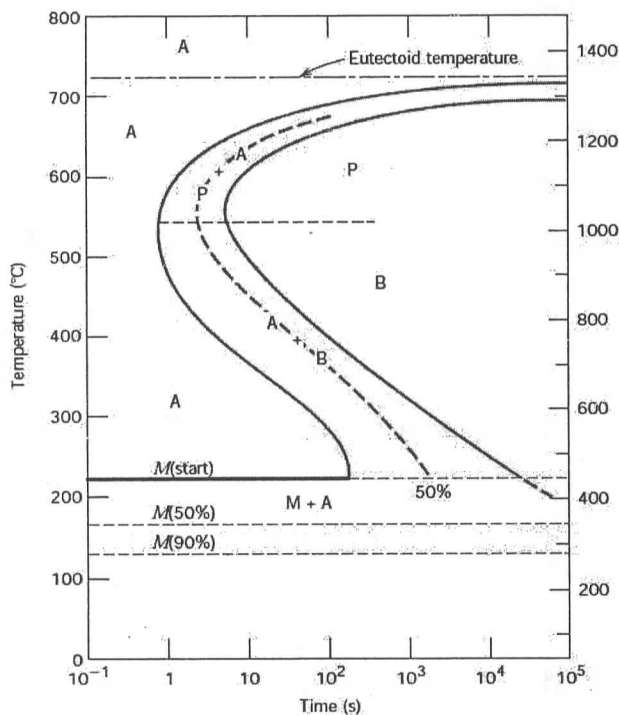

FIGURE 1 Isothermal transformation diagram for an iron–carbon alloy of eutectoid composition.
f) Make a copy of the isothermal transformation diagram for an iron–carbon alloy of eutectoid composition (**Figure 1**), specify the nature of the final microstructure (in terms of microconstituents present and approximate percentages of each) of a small specimen that has been subjected to the following time– temperature treatments. In each case assume that the specimen begins at 760°C (1400°F) and that it has been held at this temperature long enough to have achieved a complete and homogeneous austenitic structure.